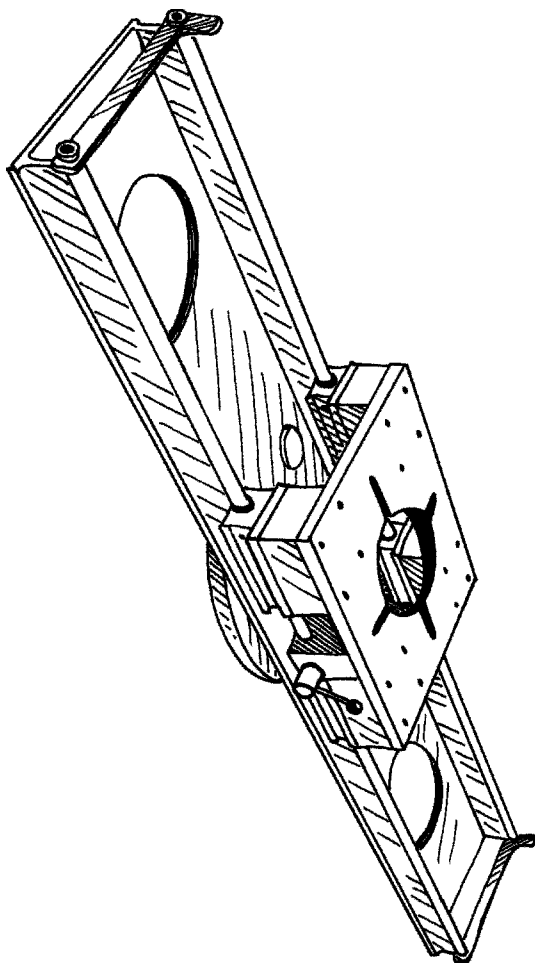

Figure 7.35 SR-71 dolly slider with Mitchell plate.
It is easy to be creative with the SR-71 (Figure 7.35); the manufacturer is available for questions and comments. To apply these mounting suggestions as well as many others, the manufacturer strongly suggests employing a qualified grip. The manufacturer can be reached at (323) 769-0650 or by fax at (323) 461-2338. I have used this piece of equipment on many car shoots, and the camera operators have been very pleased with the shots they have gotten. Don't limit your shots to car shoots, though.